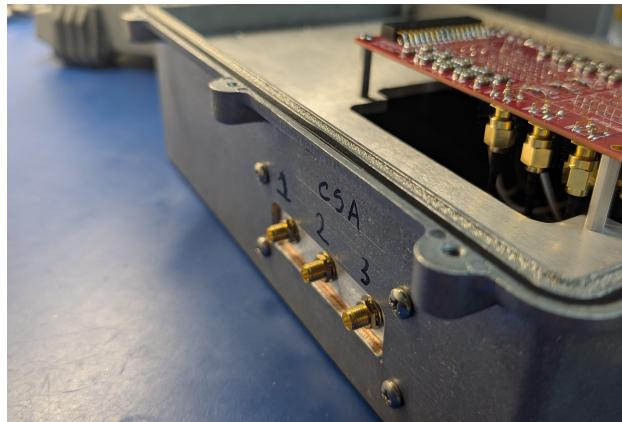

Figure 4: Test Point Side View of enclosure
The SMA connectors read test points after the signal has been preamplified at the location pictured in Figure 4.
4. Connect an SMA connector from an oscilloscope to the test point of the channel being tested. The test point connections can be found on the side of the enclosure, as seen in Figure 4. Adjust the scaling of the oscilloscope as necessary, and the following waveform should appear: